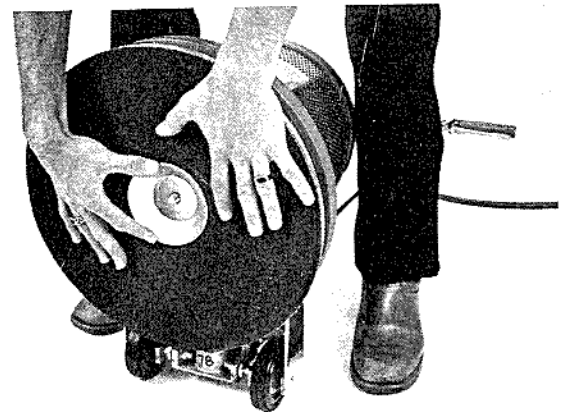

Figure 7
7. Put the paper holder in position. See figure 7.